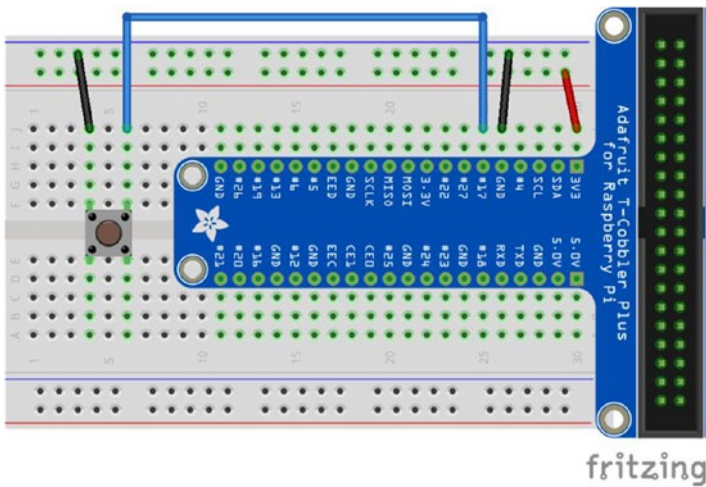

Figure 4-5. *Push-button example circuit layout*
1. Attach the T-Cobbler as shown in Figure 4-5. One row of pins should be on either side of the split in the board. The placement is up to you; however, I generally attach it so that the ribbon cable header is off the board. This allows maximum access to the breadboard.